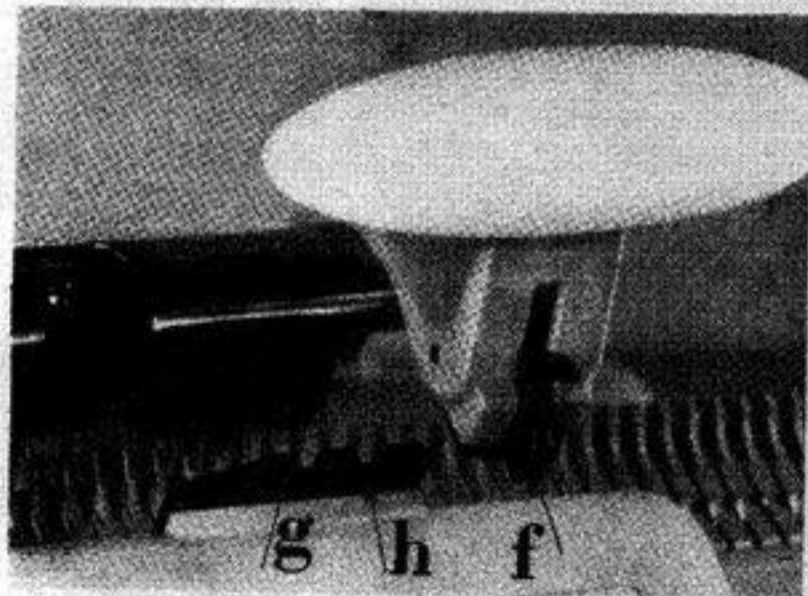

FIG. 15
Because of the catches (G and H) and the lever (F) (FIG. 15) the cam boxes may be separated. The back cam box, for example, may be used alone on the back bed. The front bed cam box is then completely disengaged (FIG. 15). Catch 'G' is used for all knitting except circular and semi-circular knitting, when Catch 'H' should be used.